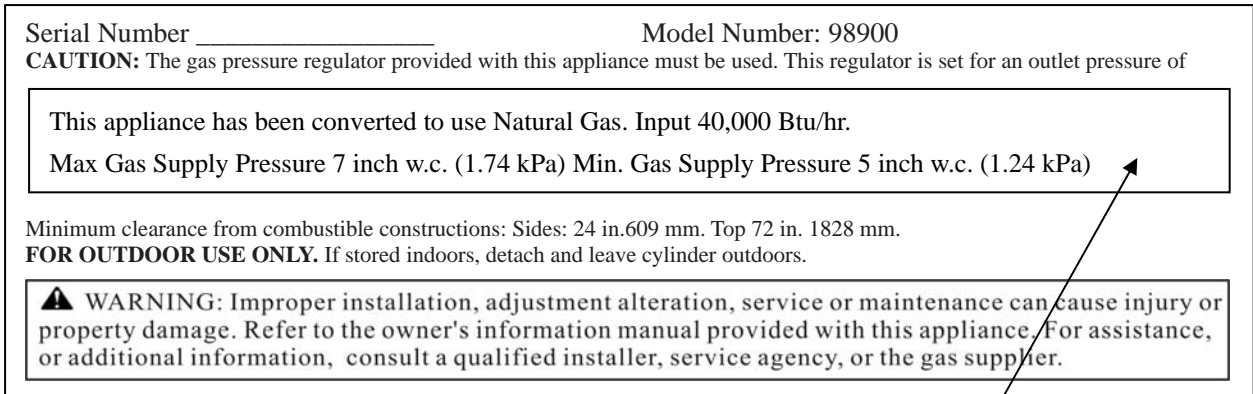

Figure 15
Step 5- Stick the conversion label on the rating plate as shown in Figure 15.